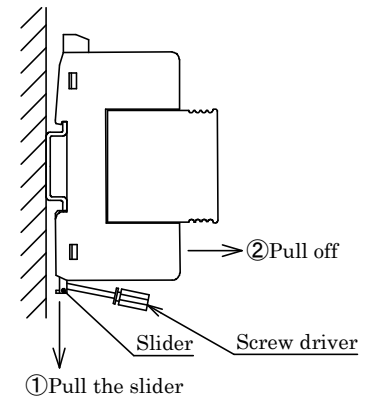

Fig.3 Removing from DIN rail
- b) Removing method (Ref.Fig.3) : Pull the slider by using screw driver and pull off the fixing base from DIN rail.